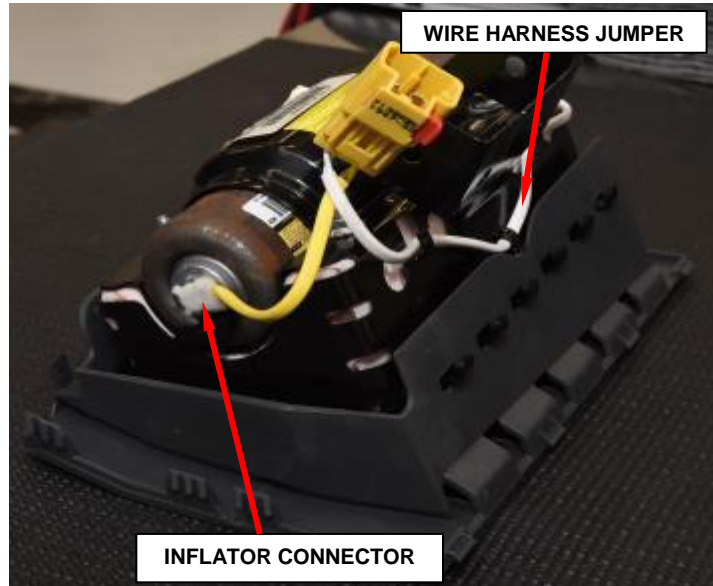

Figure 5 – Inflator Connector
- b. Disconnect the single yellow wire inflator connector from the end of the inflator using pliers (Figure 5).
- q. Connect the single yellow wire inflator connector to the end of the inflator after removing the protective tape from the end of the inflator (Figure 5).